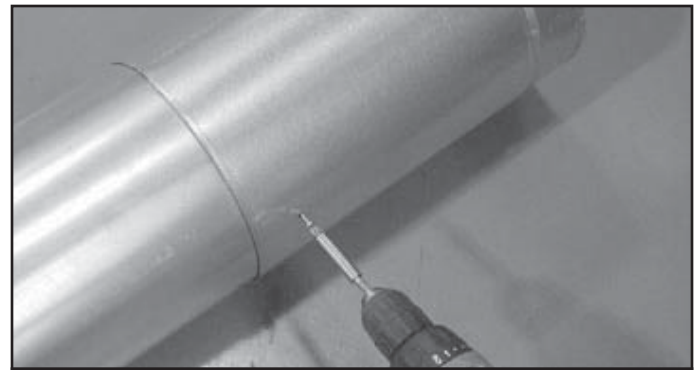

Figure 10.7 Screws into Slip Section
- Secure the pipe and slip section with two screws no longer than 1/2 in. (13 mm), using the pilot holes in the slip section. See Figure 10.7.